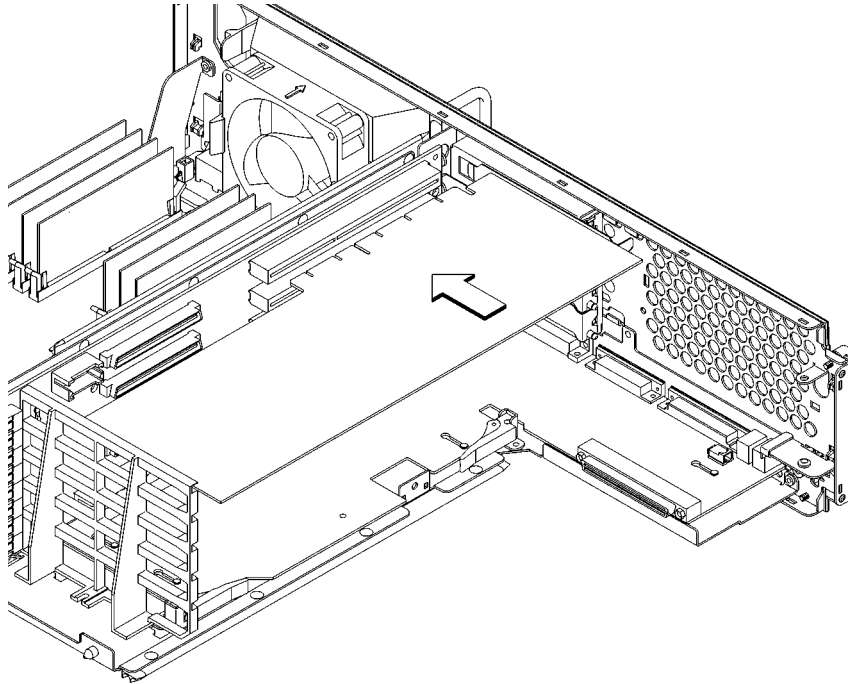

Figure 43 **Installing an Option Board**
- 7 Slide the board into the slot. Make sure that the hole in the board's handle aligns with the pin on the back panel, as shown in Figure 43.